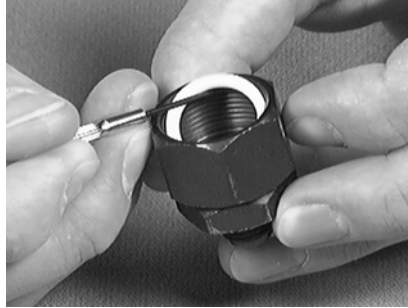

Figure 5-22
2. Remove the seal **3** from the female adapter (Figure 5-22).